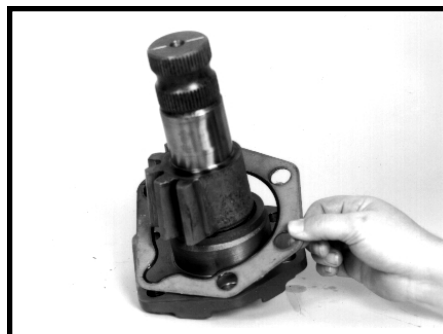

Figure 145
38. Apply clean grease to the new side cover gasket (57), and assemble it onto the side cover (58). Apply enough grease to hold the gasket in place. SEE FIGURE 145.